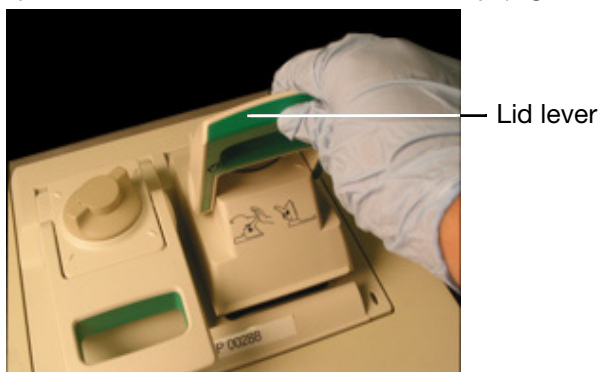

Figure 10. Lift the lid lever up to open the lid.
2. To open the lid, push the lid lever back and then lift it up (Figure 10).